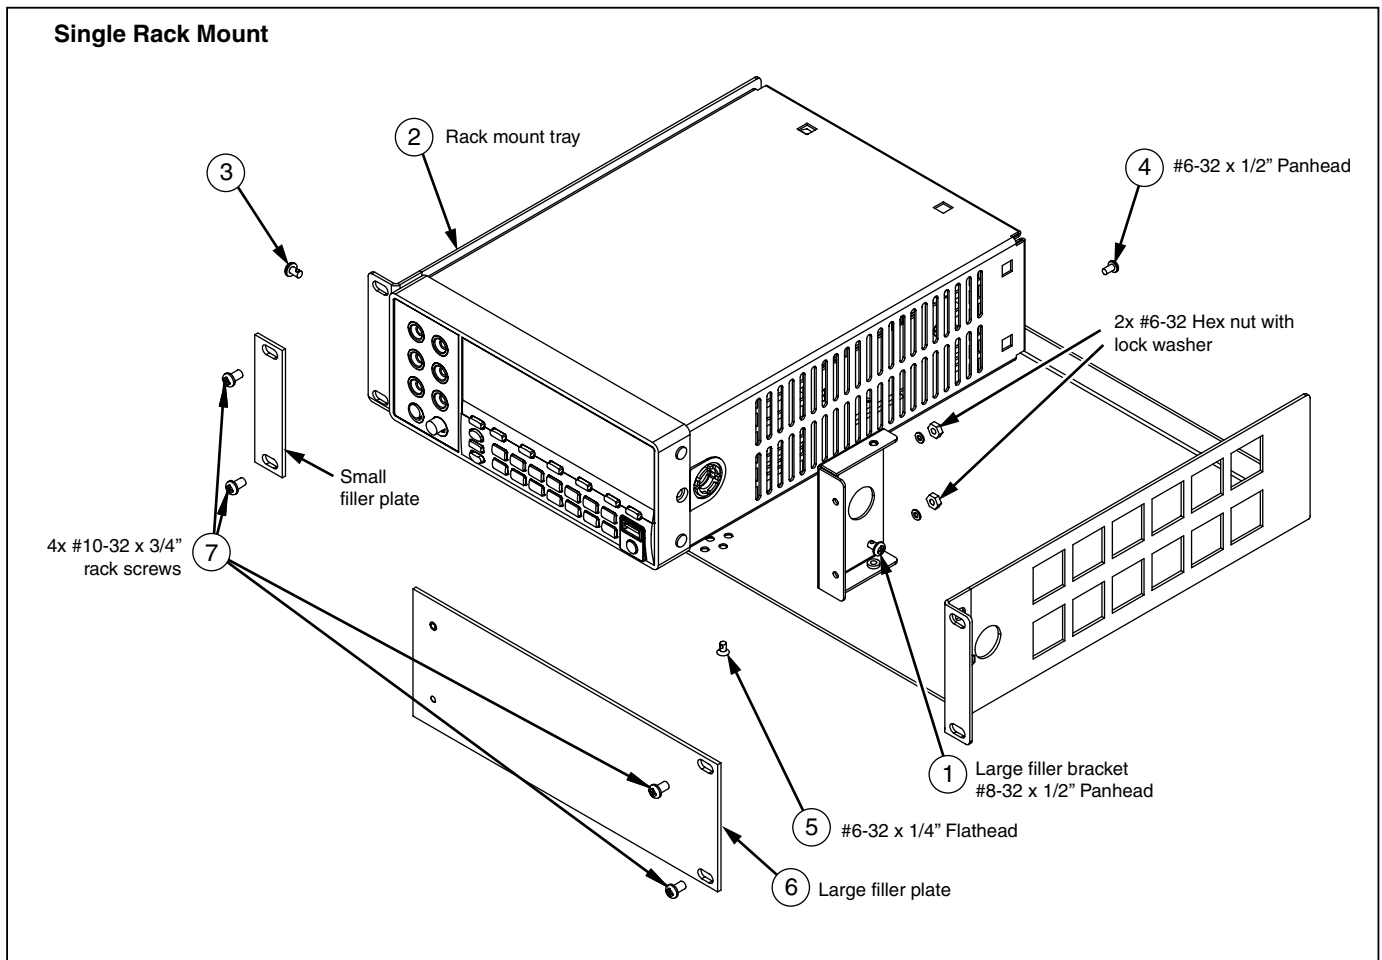

Figure 2. Single Rack Mount
1. Using one #8-32 x 1/2" panhead screw, attach the right angle filler plate bracket on the right front side of the Meter, keeping the smooth face with two holes of the bracket facing the front as shown in Figure 2.
3. Attach the Meter to the tray by inserting one #8-32 x 1/2" panhead screw through the left-hand forward holes in the tray and into the side of the Meter as shown in Figure 2.
4. Insert a #6-32 x 1/2" flathead screw through the hole in the back of the tray and into the back of the Meter as shown in Figure 2.
5. Attach the filler plate bracket on the right side of the Meter to the bottom of the tray with a #6-32 x 1/4" flathead screw as shown in Figure 2.
6. Install the 9 1/2" painted filler panel to the right front of the tray by inserting the attached screws through the holes in the right-angle bracket and locking it in with lock washers and lock nuts as shown in Figure 2.
7. Install the assembled rack mount kit in the rack using the four rack screws with the painted 1" wide plate under the screws on the left-hand side of the rack mount tray as shown in Figure 2.